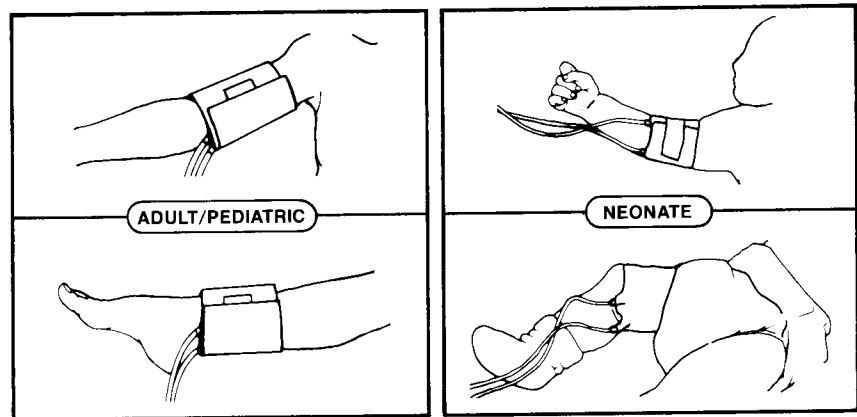

Figure 5-1. Recommended Cuff Placement
4. Select the appropriate measurement site (see Figure 5-1). For neonates, the arm or leg can be used. For adults/pediatrics, the preferred location is the upper arm. When the upper arm cannot be used, placement on the ankle or forearm is preferred over the thigh since measurement on the adult thigh may be uncomfortable. When there is no suitable alternative for the thigh (e.g., shock), set the monitor's determination cycle to five (5) minutes or longer, unless the clinical situation requires more frequent measurement.
8. Place the cuff snugly on the patient as shown in Figure 5-1. In the case of upper arm placement, it is recommended to place the cuff as proximally as possible. Observe the mark on the inside of the cuff to be placed over the artery. Be sure the cuff is snug, but not so tight as to prevent venous return between determinations.